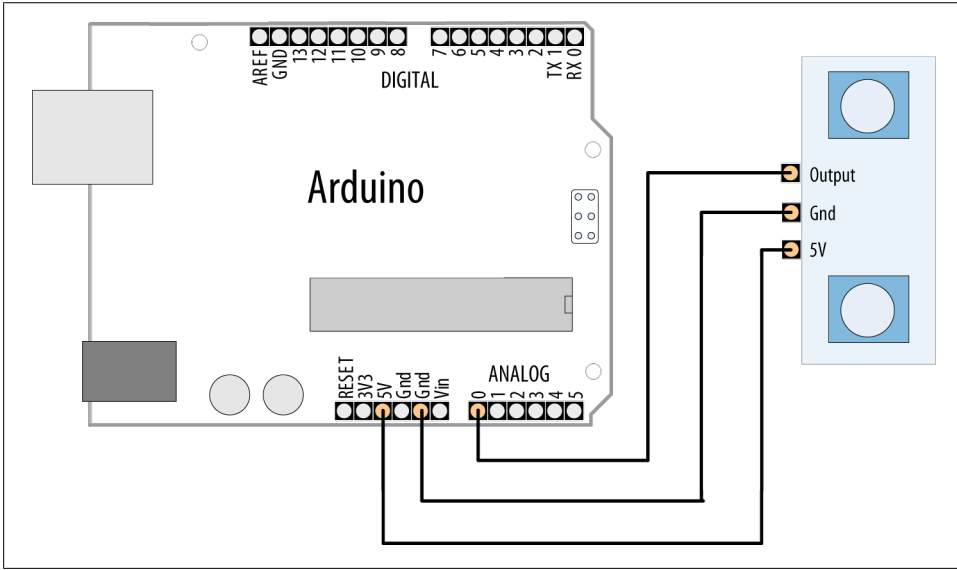

Figure 6-6. Connecting the Sharp IR distance sensor
Infrared (IR) sensors generally provide an analog output that can be measured using `analogRead`. They can have greater accuracy than ultrasonic sensors, albeit with a smaller range (a range of 10 centimeters to 1 or 2 meters is typical for IR sensors). This sketch provides similar functionality to Recipe 6.4, but it uses an infrared sensor—the Sharp GP2Y0A02YK0F (Figure 6-6 shows the connections):